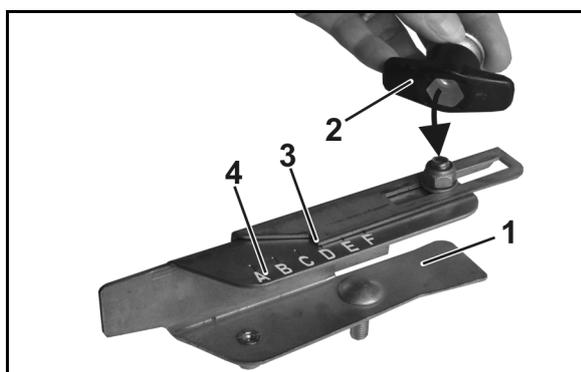

Fig. 79
3. Unscrew the screw connection of the outer section of the vane (Fig. 79/1) using the hexagon socket of the thumb nut (Fig. 79/2).
4. Set the read-off edge (Fig. 79/3) to the letter of the scale (Fig. 79/4) according to the setting chart and retighten the screw connection.